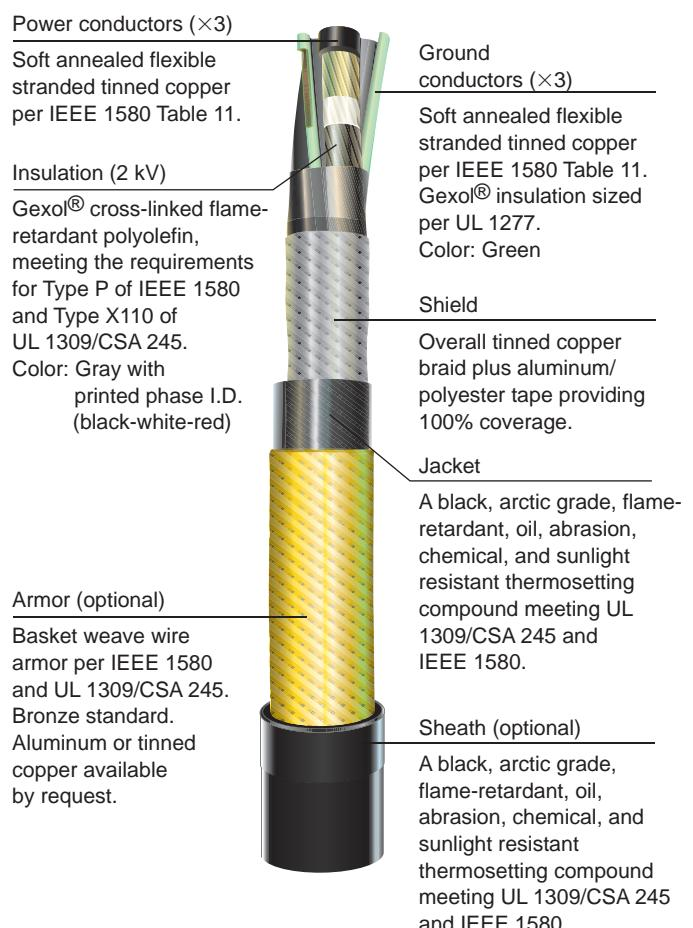

Figure 10-17 VFD shielded power cable.
- Use a shielded power cable, such as the one shown in Figure 10-17, to connect the VFD to the motor.